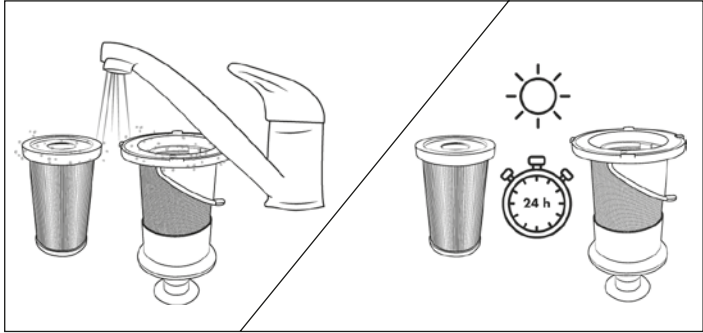

Fig. 22
- 5) Rinse the EPA filter **5** and the stainless steel filter **6** under cold or luke-warm water. Allow the EPA filter **5** and the stainless steel filter **6** to air dry completely before putting them back into the dust container **7** (see Fig. 22).